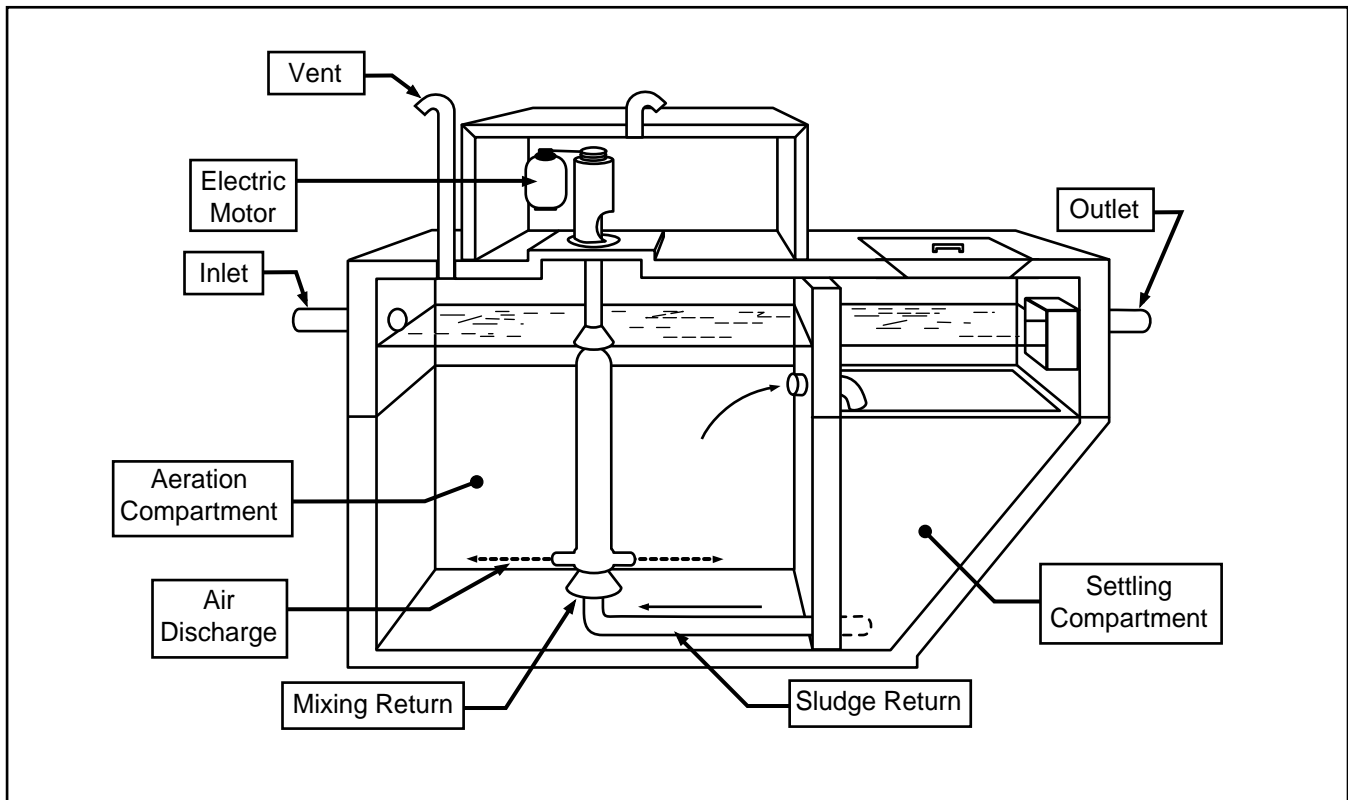

Figure 2. Aeration tank of a household aerobic treatment system. Source: Onsite Domestic Sewage Disposal Handbook, MWPS-24, Midwest Plan Service, 1982
- ★ Use modern, efficient plumbing fixtures and appliances, including 0.5- to 1.5-gallon toilets, 0.5- to 2.0-gallons-per-minute (gpm) showerheads, faucets of 1.5 gpm or less, and front loading washing machines of 20 to 27 gallons per 10- to 12-pound dry load. These fixtures and appliances can reduce water use from 30 to 70 percent (see Fig. 2.).